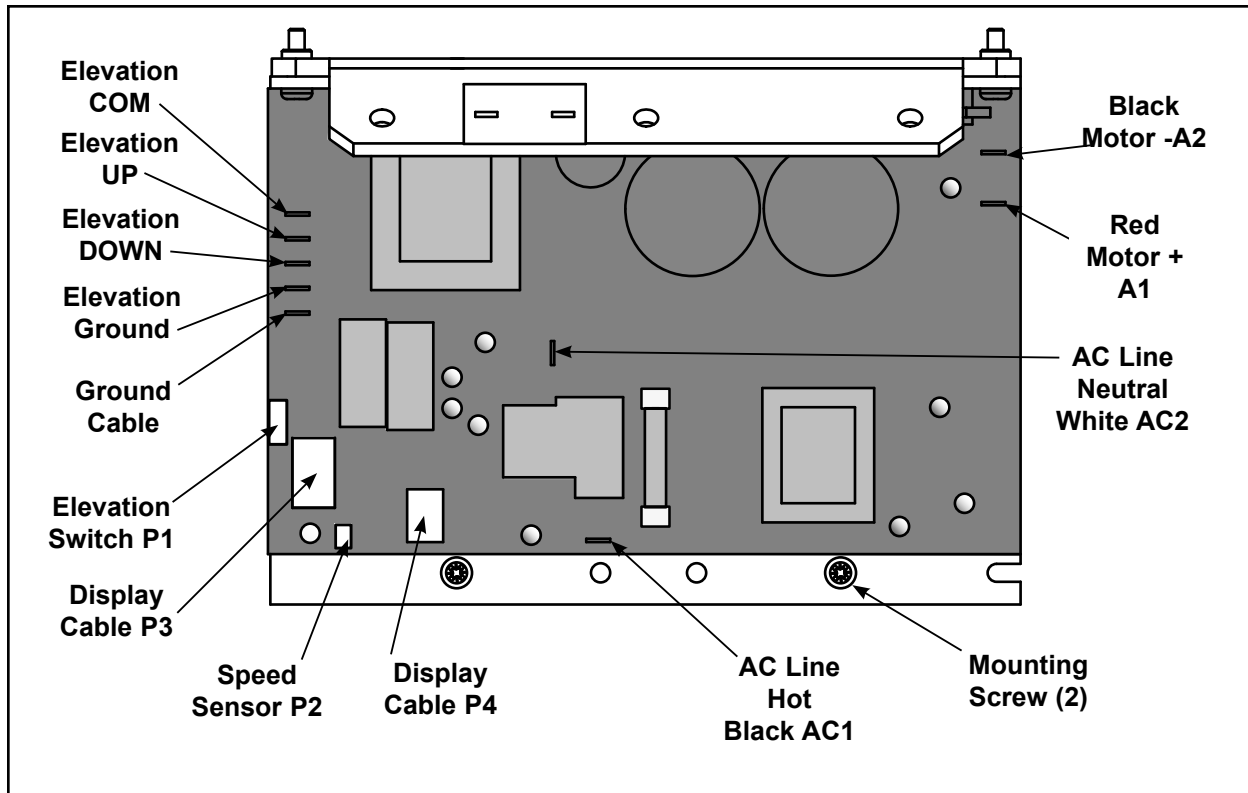

Figure 20a
- A. Disconnect the cables from the lower control board. This includes: the elevation motor cables (COM, UP, DOWN and GND); Ground cable; elevation switch (P1); display cable (P3); speed sensor (P2); display cable (P4); AC line hot, black (AC1); AC line neutral, white (AC2); drive motor cable red (A1) and drive motor cable black (A2). See Figure 20a.
- D. Using a Phillips screwdriver, remove the two other screws that hold the lower control board to the motor base plate. See Figure 20a.
A. Connect the cables from the lower control board. This includes: the elevation motor cables (COM, UP, DOWN and GND); Ground cable; elevation switch (P1); display cable (P3); speed sensor (P2); display cable (P4); AC line hot, black (AC1); AC line neutral, white (AC2); drive motor cable red (A1) and drive motor cable black (A2). See Figure 20a.